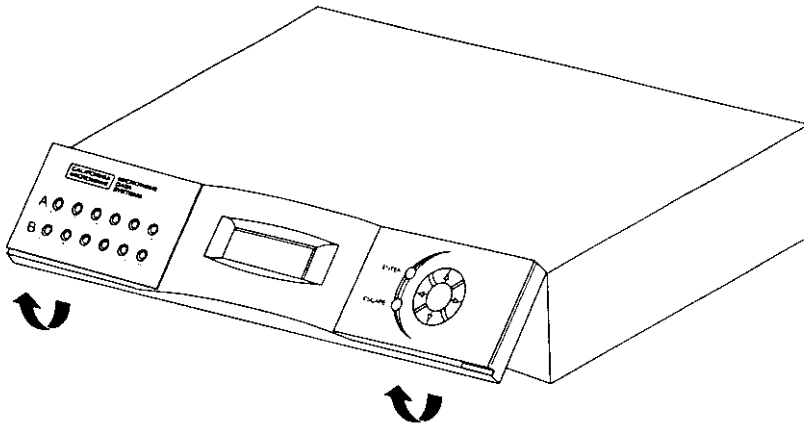

Figure 8. Front Panel Removal
1. Detach the panel from the radio by grasping it firmly along its bottom edge and pulling away from the radio chassis (Figure 8).